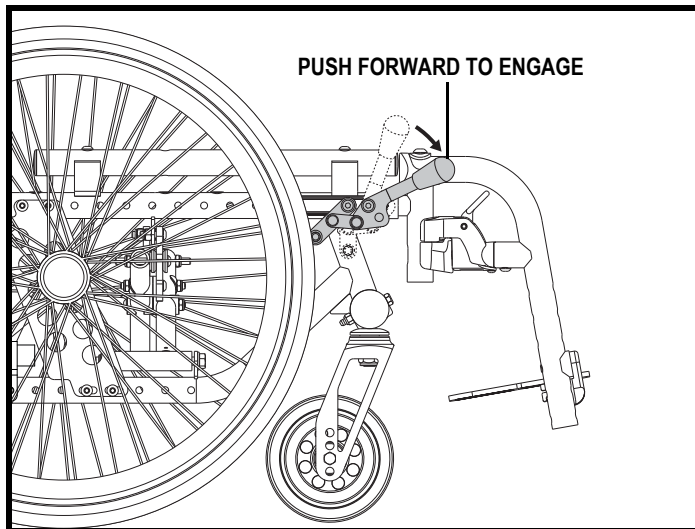

Figure 6. Right Wheel Lock Engaged (Push-to-lock Shown)
1. Engage both wheel locks. See figure 6.